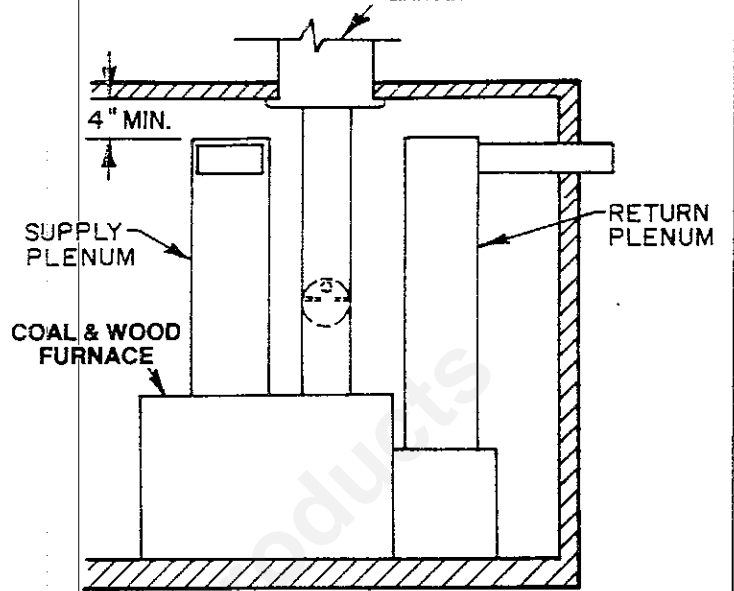

FIGURE 5
1. If all air for combustion is taken from inside the building, the confined space shall be provided with two permanent openings, one near the top of the enclosure and one near the bottom. Each opening shall have a free area of not less than one square inch per 1,000 BTU per hour of the total input rating of all appliances in the enclosure, freely communicating with interior areas having in turn adequate infiltration from the outside. (See figure 5.)